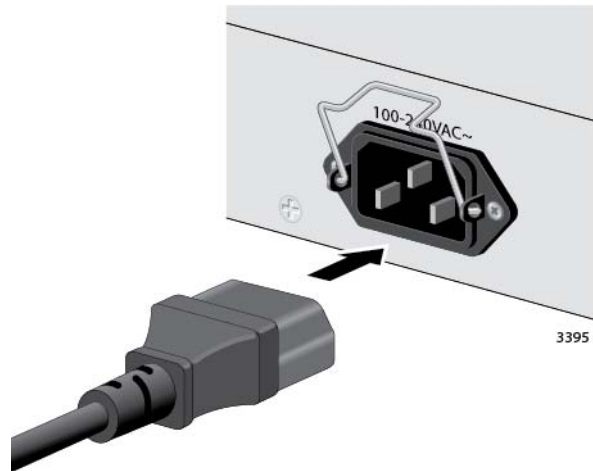

Figure 43. Plugging in the AC Power Cord
1. Power on the switch you want to be assigned ID number 1 by connecting its power cord to the AC connector on the back panel and to an appropriate power source. Refer to Figure 43 on page 92. Refer to “Power Specifications” on page 116 for the power specifications of the switches.
Connect the power cords to the connectors on the back panels and to the appropriate power sources, as shown in Figure 43 on page 92. Refer to “Power Specifications” on page 116 for the power specifications of the switches.